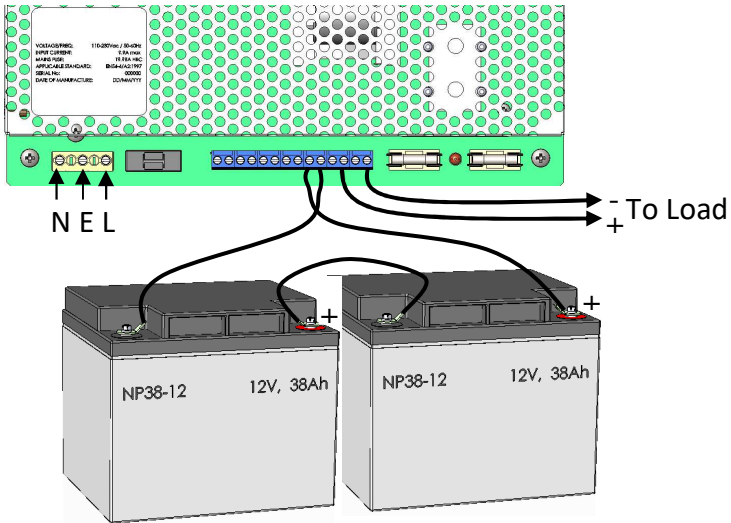

Figure 4 – Power, Load and Battery connections
- 5) Connect the load (output) wiring as shown in Figure 4. Cable tie to saddle provided (adjacent to exit hole).
- 13) Connect the free Positive and Negative terminals of the batteries to the PCB terminals Batt+ and Batt - using the cables provided. See Figures 4 & 5.